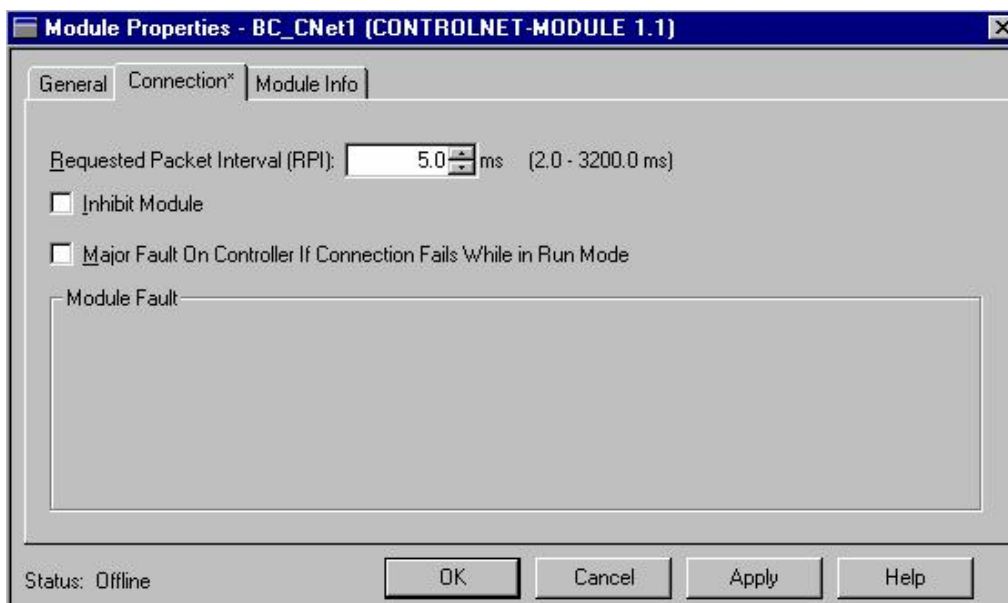

Figure 15. Packet Rate Selection
6. Click the NEXT button to enter the settings for the Requested Packet Interval. The default setting should be sufficient for most applications. When finished with the Requested Packet Interval screen, click the FINISH button to exit. Refer to Figure 15.